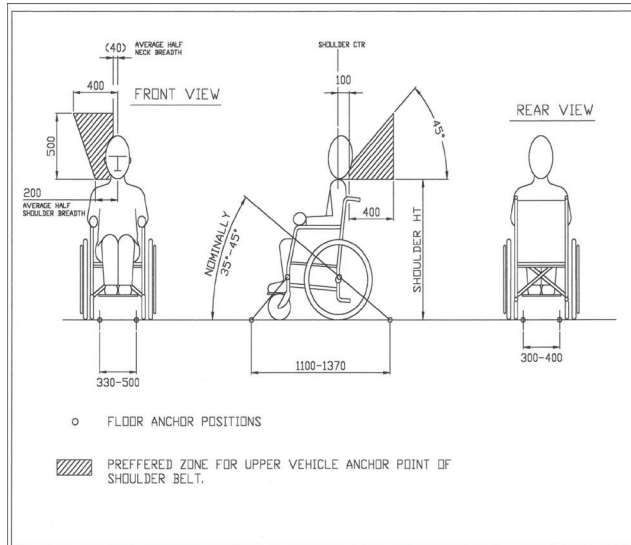

Figure 2
- A height provision (HHT) ranging from 1000mm to 1550mm should be made, depending on the size of the passenger. There should also be 200mm of clear space either side of the wheelchair centre line. If these clear space dimensions cannot be provided then any structure protruding into this space should be adequately padded and comply with impact performance requirements of ECE Regulation 21 'FMVSS 201'. All vehicle padding should comply with the flammability requirements of ECE Regulation 118 'FMVSS 302'. Guidance positions are shown in Fig. 2.
1. Mark out the chosen floor anchor points, guidance positions are shown in Fig 2. Using a 25mm diameter hole saw and pilot drill arbour, or equivalent, cut through the finished floor, ply and steel flooring.
3. Clear debris and install the floor anchors, orientated as shown in Fig 2. Tighten to 30Nm (Newton metres) from underneath using the nut, washer and under floor spreader plate (if applicable). **Note:** A special Solo wrench is available to hold the floor anchor whilst applying the locking torque. Please contact our Sales Office for details.